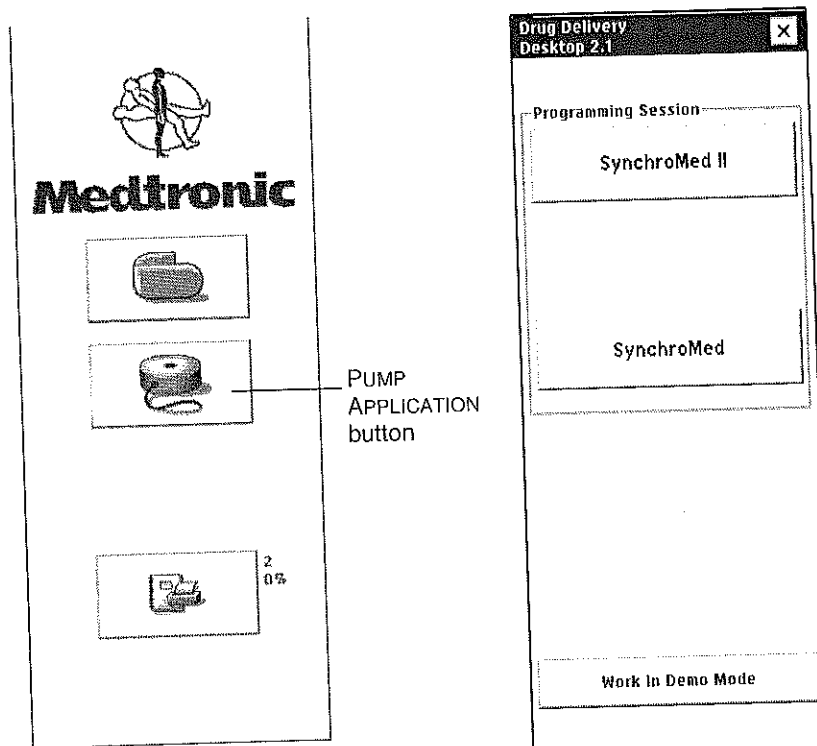

Figure 57. APPLICATION SELECTION and DRUG DELIVERY DESKTOP screens.
2. Navigate to the DRUG DELIVERY DESKTOP screen by selecting the PUMP APPLICATION button () from the APPLICATION SELECTION screen (Figure 57).